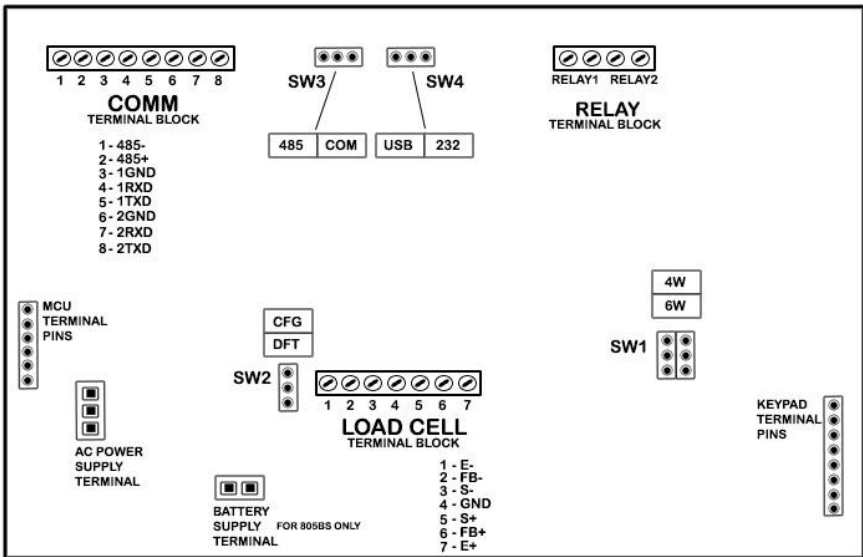

Fig. 8.1 Sockets on mainboard for 805TS & 805BS series
When hooking up a printer to the indicator, use the COMM terminal block port numbers (6) 2GND, (7) 2RXD, and (8) 2TXD shown in Fig.8.1 while terminal block port numbers (3) 1GND, (4) 1RXD, and (5) 1TXD are for serial data out. To ensure the indicator is able to print on command set the serial mode in F4.3 equal to 1 (comm).